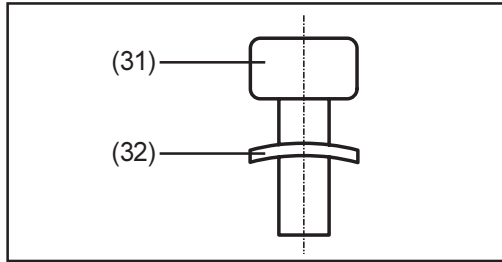

Fig. 16
Note! Before inserting the M4x14-TX20 screws (31) into their holes, push the cup springs (32) onto the M4x14-TX20 screws (31), as shown in Fig. 16.